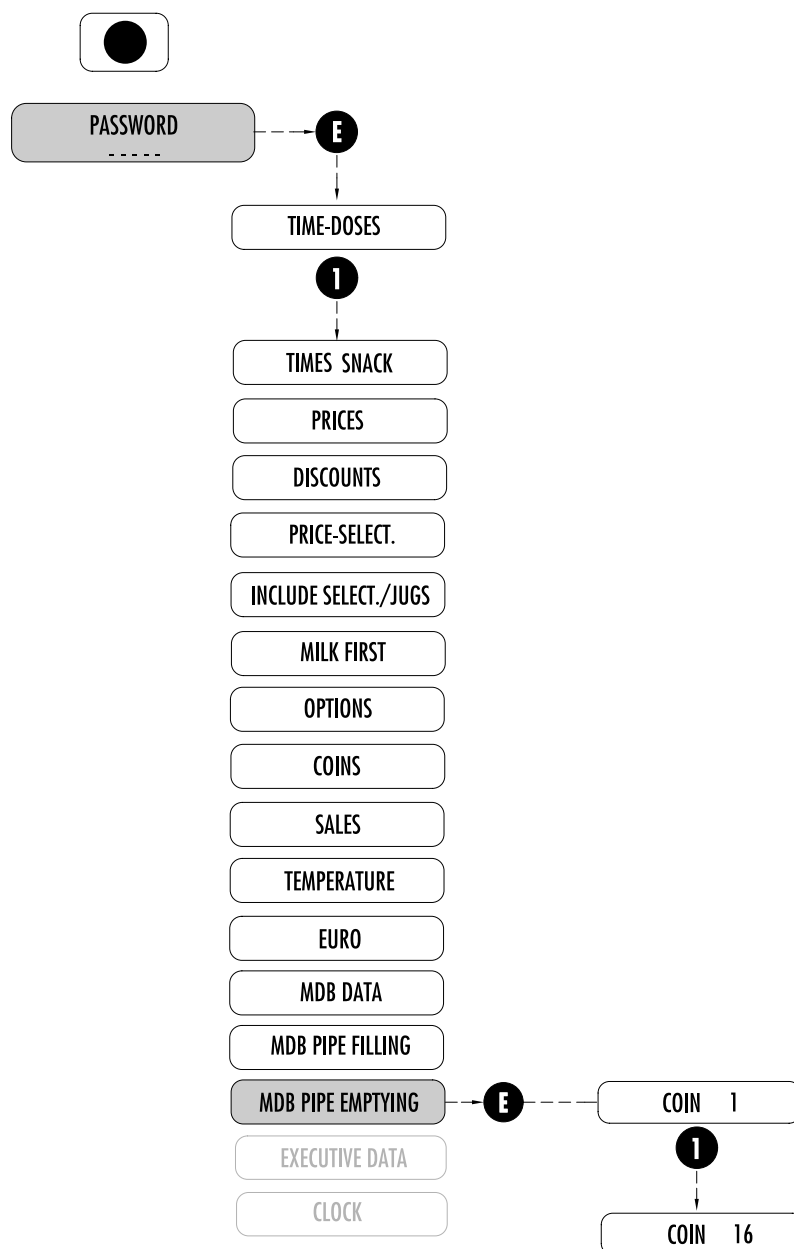

Fig. 7.18
7.2.15 MDB PIPE EMPTYING (Fig. 7.18)